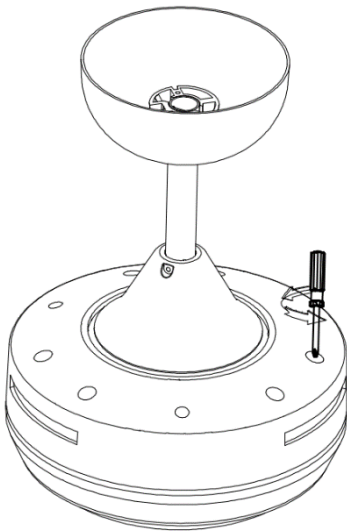

Fig. 5a
1. Remove the 2 blade screws from the fan motor assembly. (Fig. 5a)